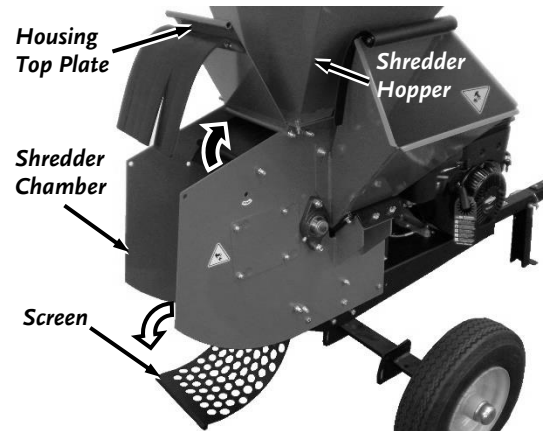

Figure 16
4. Rotate the Housing Top Plate up towards the Hopper, exposing the Screen (**Figure 16**).